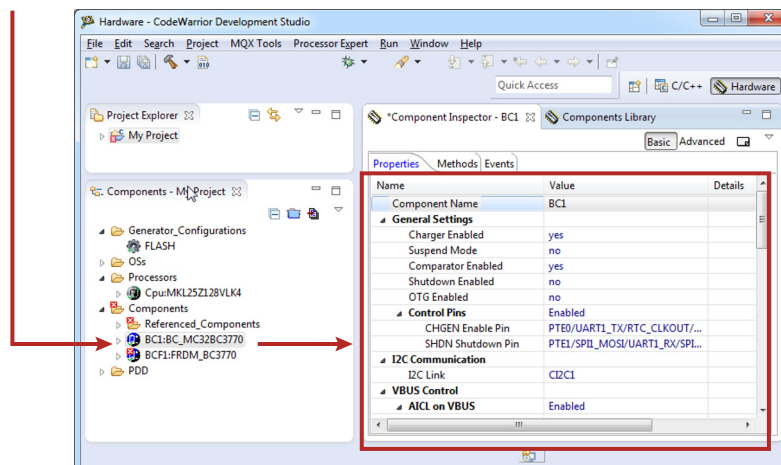

Figure 28. Select the component
2. Figure 28 shows the Components panel after the component was added. To view the Component Inspector options, double click on the BC3770 component in the Components panel.